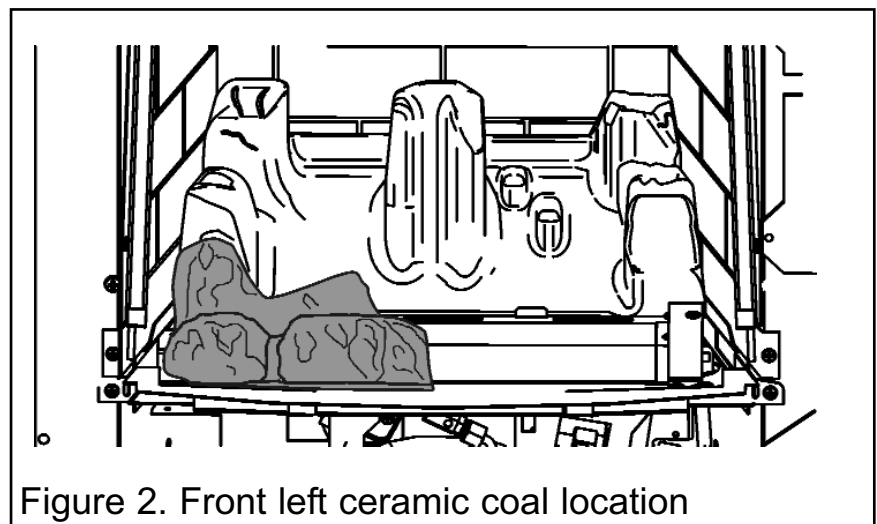

Figure 2. Front left ceramic coal location
**2.** It is important that the front ceramics are positioned correctly and do not cover the burner ports in any way. Locate the left hand front ceramic as in figure 2 so that its front edge rests against the rear of the burner baffle. Insert the bottom left hand corner first.